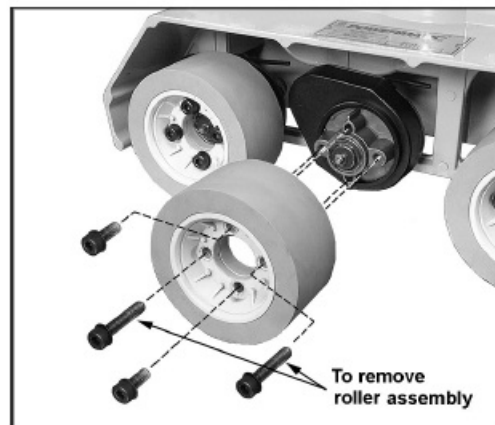

Figure 23
**NOTE:** Replacement roller assemblies may have a one-piece hub, and thus the two short screws will no longer be needed.) See Figure 23.